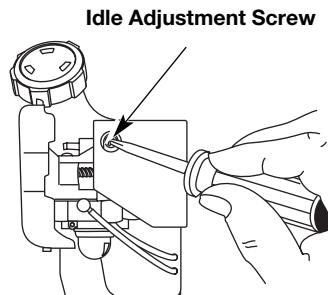

Fig. 29
The idle speed of the engine is adjustable. An idle adjustment screw is reached through a hole in the top of the engine cover (Fig. 29).
- Release the throttle trigger and let the engine idle. If the engine stops, insert a small phillips or flat blade screwdriver into the hole in the air filter/muffler cover (Fig. 29). Turn the idle speed screw in, **clockwise**, 1/8 of a turn at a time (as needed) until the engine idles smoothly.